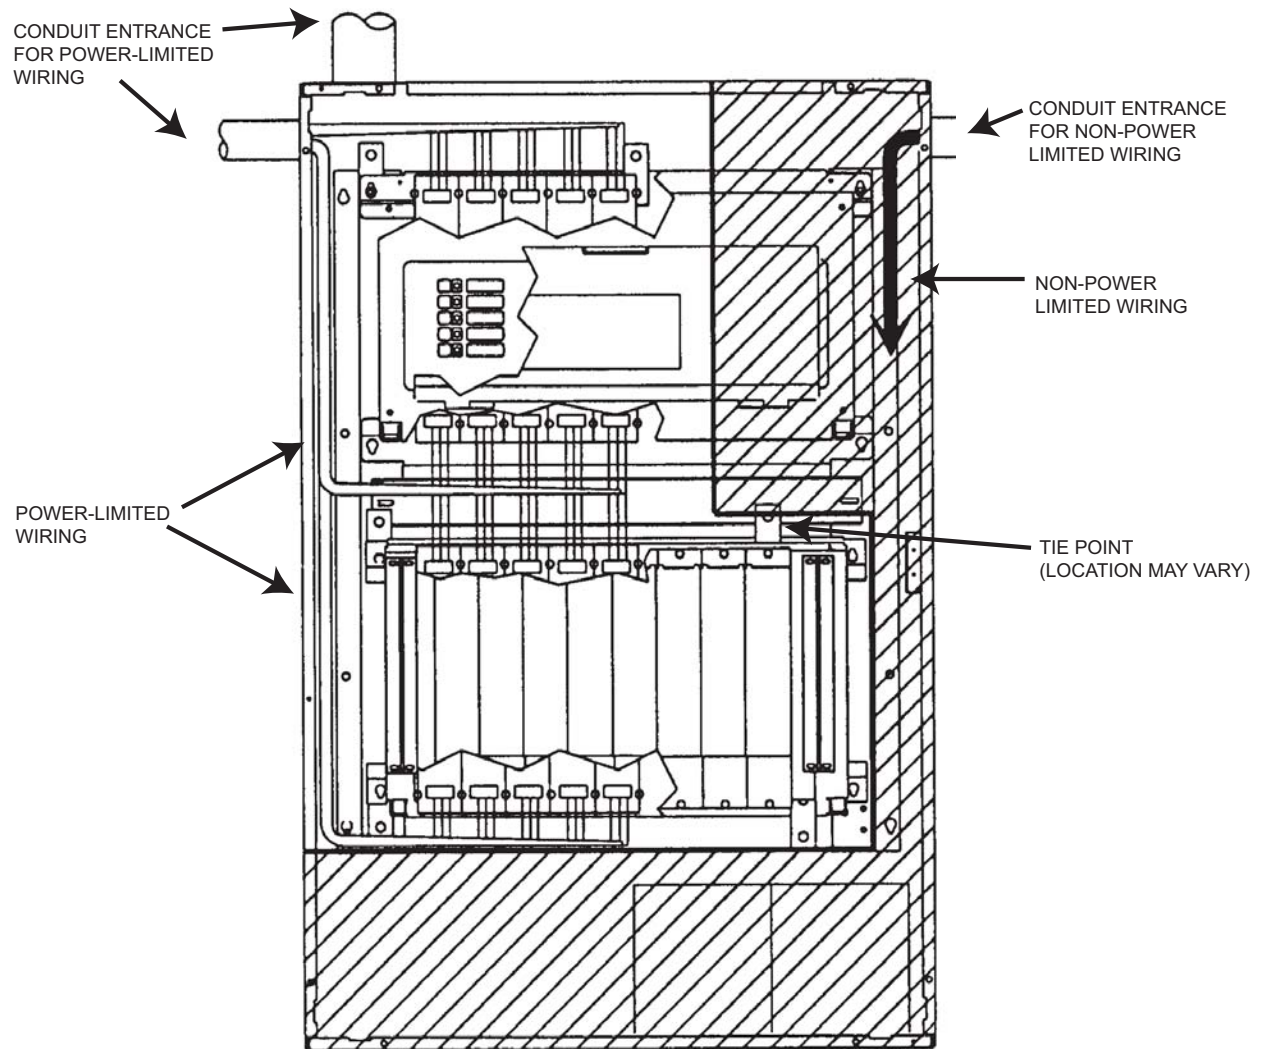

Figure 2. Power-limited wiring
- Non-power limited field wiring (AC power, batteries, City connection) must be installed and routed in the shaded areas shown in Figure 2.
- Power-limited field wiring must be installed and routed in the non-shaded areas shown in Figure 2, with the exception of City wiring.
- Excess slack should be kept to a minimum inside the back box enclosure. The wiring should be neatly dressed and bundled together using the wire ties provided with the equipment. Anchor power-limited wiring to tie points, as shown in Figure 2.